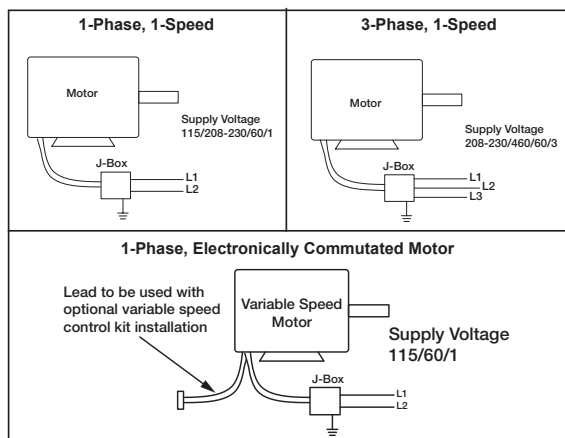

Figure 4
11. Mount and wire safety disconnect switch under motor cover. Wire control switches at ground level, refer to Figure 4.
2. Wire motor for desired voltage per wiring diagram on motor, refer to Figure 4 for connection wiring diagram.